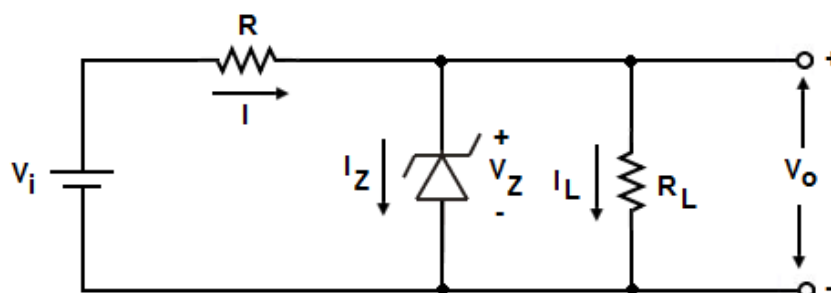

Fig.1.30: Zener diode voltage regulator
- A voltage regulator **is a circuit which accepts unregulated DC input and provides a constant DC output voltage irrespective of the changes in the load current and line voltage** as shown in Fig.1.30.